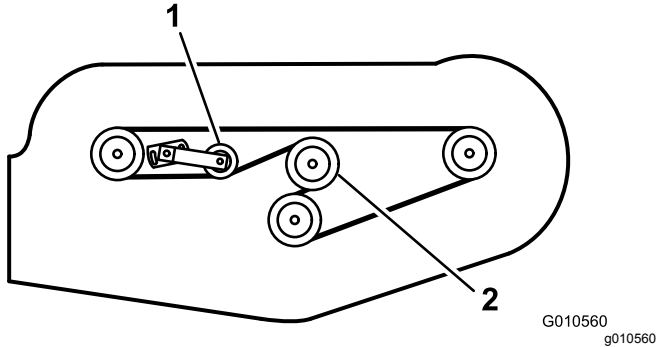

Figure 30
6. Install the new belt around the gearbox pulley, spindle pulleys, stationary idler pulley, and adjustable idler pulley (Figure 30).